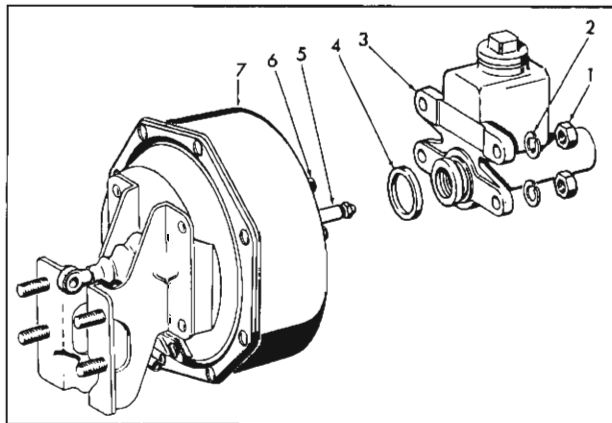
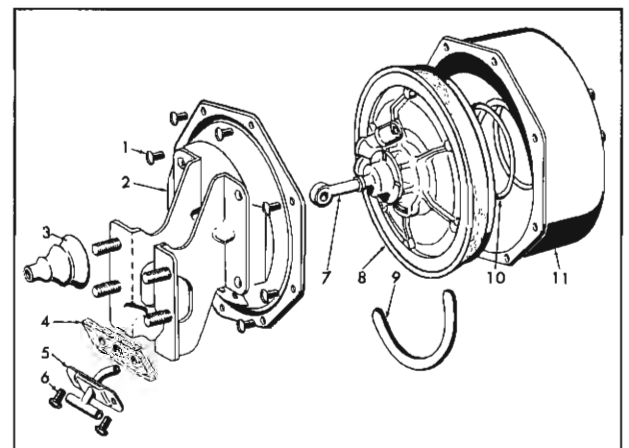

Fig. 32—Removal of Master Cylinder and Power Section
Fig. 33—Removal of End Plate, Air Cleaner, Vacuum Piston and Spring from Vacuum Cylinder
1. Remove four master cylinder attaching nuts (1) and lockwashers (2) from master cylinder attaching studs (6, fig. 32).
2. Remove master cylinder (3) from vacuum power section (7) and then remove rubber seal (4) from outer groove at end of master cylinder.
3. Remove push-rod (5) from power section. **DO NOT DISTURB ADJUSTMENT SCREW.**
4. Remove push rod boot (3) from rear shell (2) and valve operating rod (7, fig. 33).
15. Assemble air cleaner filter (4) over vacuum tube of air cleaner and tube assembly (5) and attach air cleaner to shell in position shown (fig. 33) with screws (6).
16. Slide vacuum hose (9) onto vacuum inlet tube of power piston and align hose to lay flat against piston.
18. Install rear shell (2) over end of valve operating rod (7) and attach vacuum hose to tube end on each side of end plate.
19. Center small diameter end of piston return spring (10) in vacuum cylinder (11) (front shell). Center large diameter of spring on piston. Check alignment mark on piston with marks on vacuum cylinder (front shell) and rear shell, compress spring and install two attaching screws (1) at opposite sides to hold rear shell and cylinder (front shell) together. Replace balance of screws and tighten all screws uniformly.
20. Dip small diameter end of push rod boot (3) in alcohol and assemble guard over end of valve operating rod and over flange on shell.